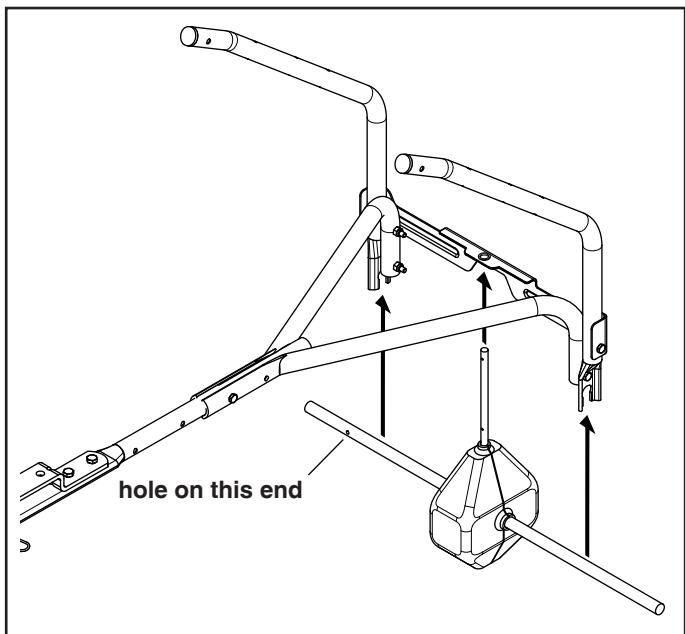

FIGURE 5
## STEP 5: (SEE FIGURE 5)
- Install the gearbox by inserting the end of the verticle shaft into the cross brace bushing and inserting the axle into the ends of the hopper support tubes. Be sure the hole in the axle is located on the side shown in figure 5.